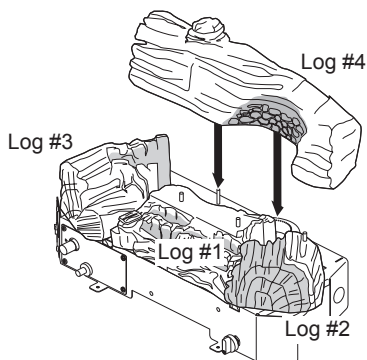

Figure 21 - Installing Log #4 (Model CSG3924NR Shown)
4. Place log #4 onto two alignment screws to the rear of base (see Figure 21).